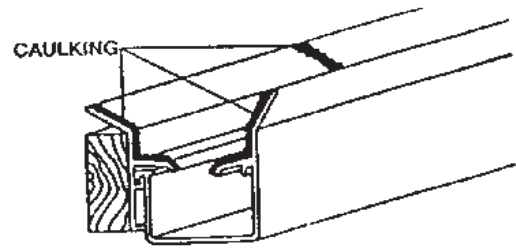

Fig. 10
- e. Caulk the top surface of the joints between the gutter pieces and the joints between the gutter supports to prevent water from seeping through to the stringer (see Fig. 10).